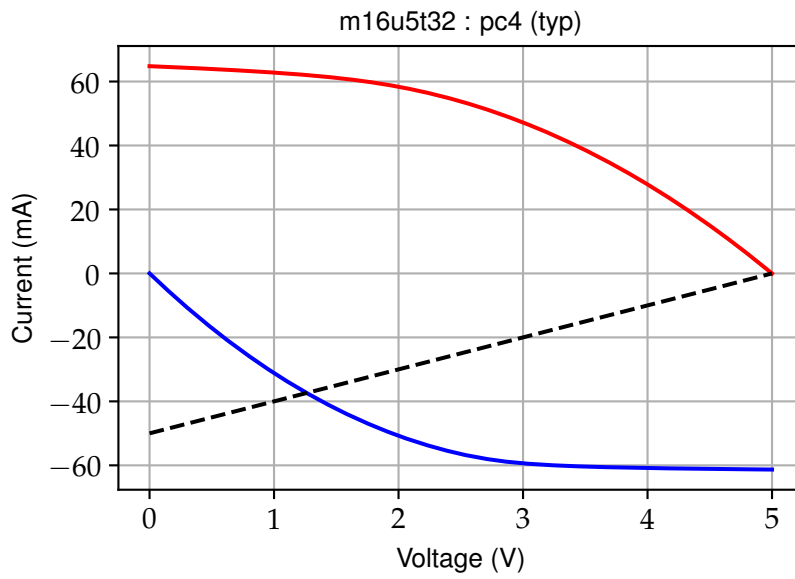

Figure 8.17: ATmega32u2
15. Consider the IV curve in Figure 8.17 with a superimposed load line. Determine the loading, the maximum voltage swing, and the steady state current when the output is low.